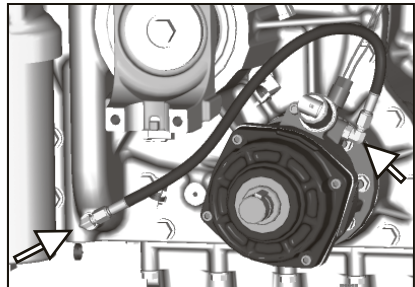

Fig. 6
7. Install the 90° elbow in the transmission pressure port as shown. Connect hose to the transmission port as shown. Connect other end of hose to the P.T.O. 90° elbow located near the P.T.O. solenoid. (**Fig 6**)